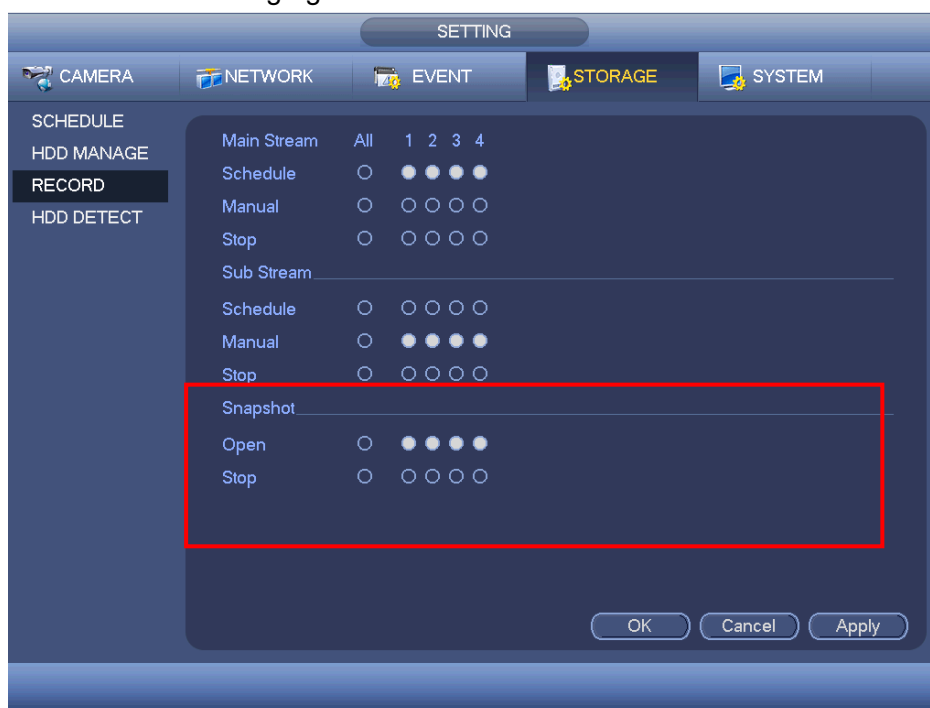

Figure 4-174
- On the preview interface, right click mouse and then select Manual->Record, or in the main menu, from Setting->Storage->Record, check the box to enable snapshot function of corresponding channels. See Figure 4-174.